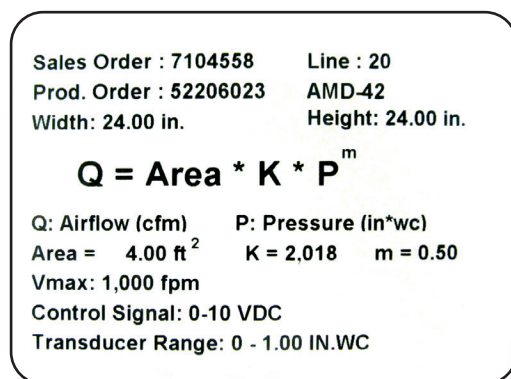

Figure 1 - Label affixed to AMS/AMD that lists the V_{\max} and damper area.
- **The unit's K & M Values** – damper specific constants used to calculate airflow. These values are set at the factory and can also be found on the label affixed to the AMD/AMS (see Figure 1)